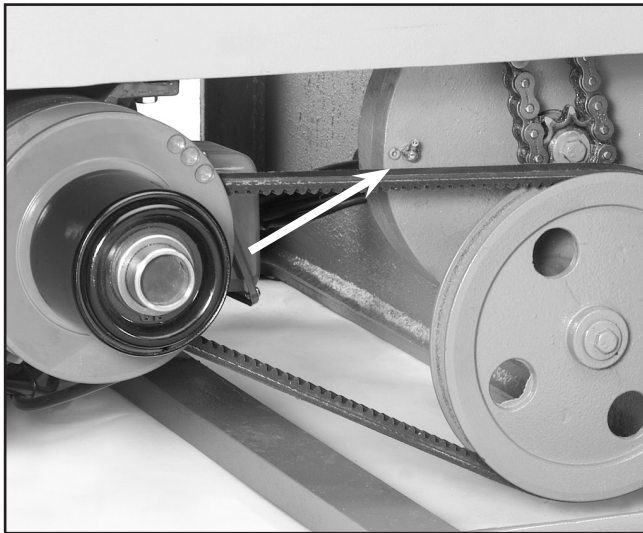

Figure 21. Transmission box grease fitting.
2. **Transmission Box** — Lubricate after every 12 hours of continuous use. See **Figure 21** for location.